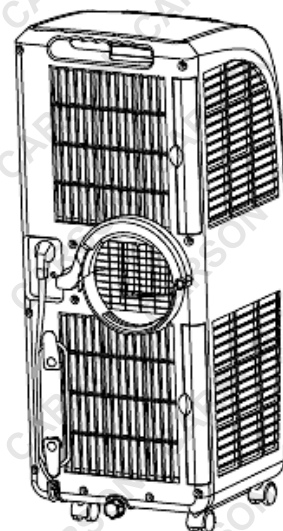

Figure 4
3. Rotate the C-shape buckle of the heat exhaust hose that was put into place anti-clockwise to clip the snap joint of the C-shape buckle of the back shell successfully through the guide of the sliding groove of the back shell (as shown in Figure 4).